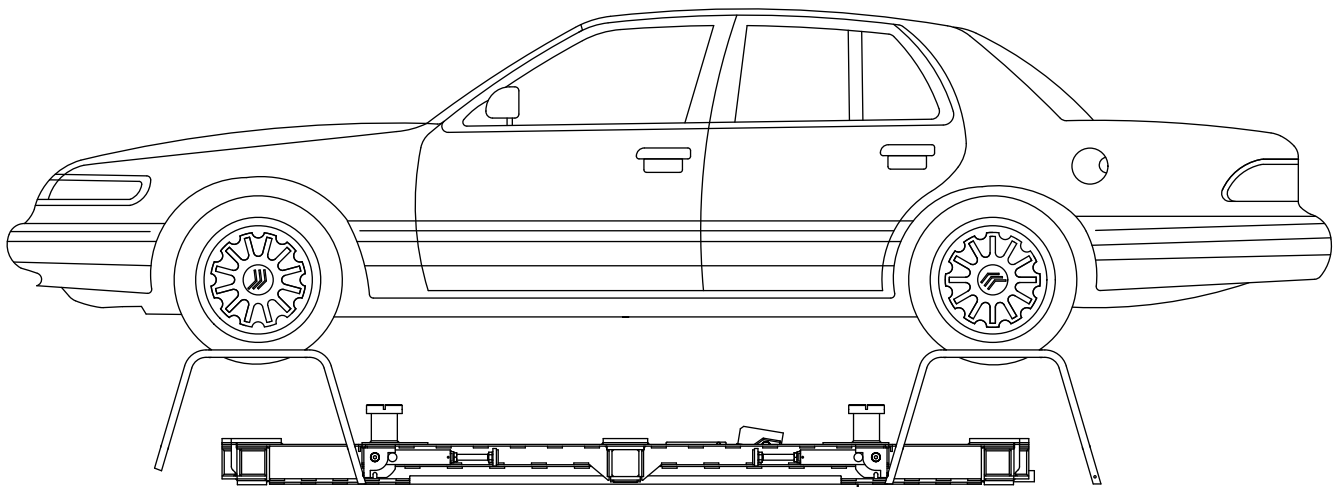

Figure 45
11. Place the Support Holder on the mainframe and locate the Support Holder below structural components at the front and rear corners of the vehicle's center section (see Figure 45).